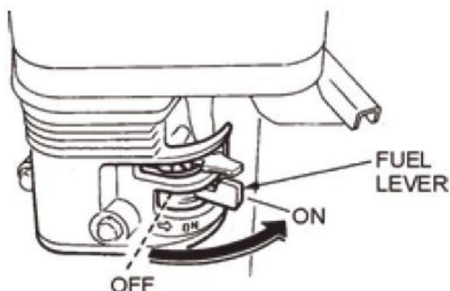

FIG.6
9.1 Zet de brandstofklephendel van de motor (FIG. 6) in de stand "AAN".